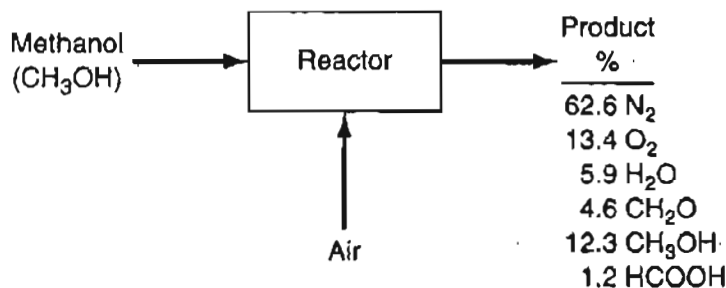

Figure P10.4
- *10.4 Examine the reactor in Figure P10.4. Your boss says something has gone wrong with the yield of CH_2O , and it is up to you to find out what the problem is. You start by making material balances (naturally!). Show all calculations. Is there some problem?